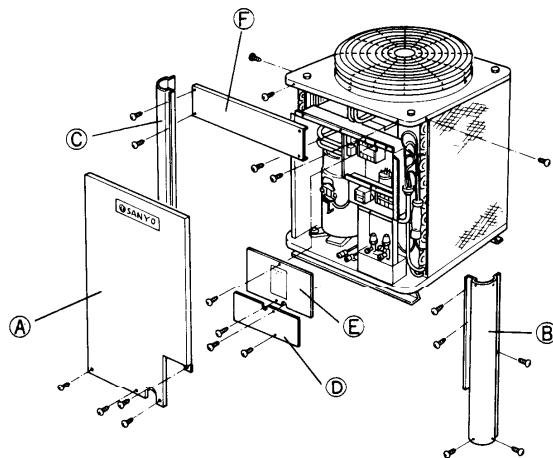

Fig. D-9
- 1) Remove the exterior panels in the order of the front panel (A), side panel (B) and side panel (C).
- 2) Remove the cover plates (D) and (E).
- 3) Remove the mounting plate (F). (See Figure D-9.)
- 1) Many wires have to be removed. When removing wires, carefully check the electric diagram on the rear side of the cover plate (E). (See Figure D-9.) Reconnect the wires correctly after replacing the compressor.